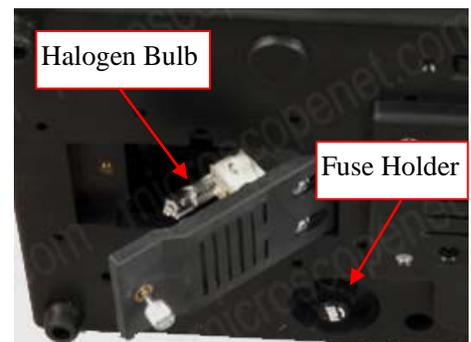

Fig.3
2.5 Installing (or changing) the halogen bulb (Fig.3)
2.6 Replacing the fuse (Fig.3)